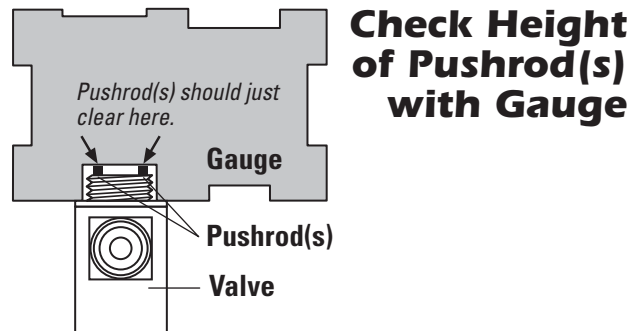

Figure 11
9. Now place the spring guide stamping (when used), and spring, in the pin carrier, place the lower spring guide on the opposite end of the spring and screw the bottom cap in place. (Replace the pin guide, spring, and bottom cap assembly together on Type (E)BF/SBF and EBS valves.) After screwing bottom cap assembly in place, carefully tighten, preferable with two 10" wrenches, to seal the metal-to-metal knife edge joint. The sealing surfaces should be free of any foreign material or nicks that might prevent a leak-tight joint.
10. On valves with replaceable elements (except Types O, (E)BF/SBF and EBS), place the pushrods into the body and open the valve several times by pressing down on the pins with a flat metal surface. This will help seat the pin properly.
11. Check the height of the pushrod(s) above the element sealing surface with the pushrod gauge (see Figure 11). The gauge is supplied with internal parts kits or can be obtained at no charge